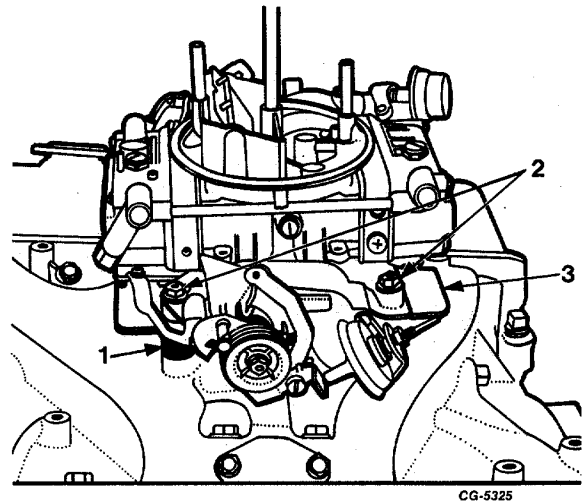

Fig. 32 Removing Carburetor
- 31. Remove carburetor nuts and washers Figure 32. Remove carburetor, two gaskets and spacer plate.